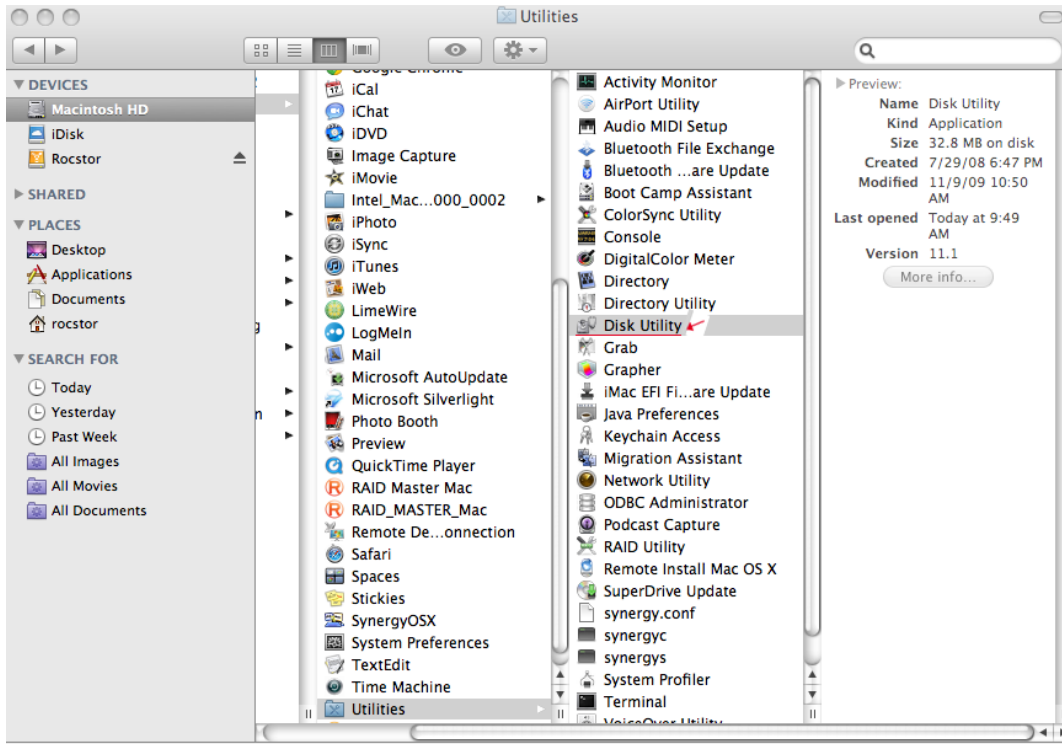

Figure 4.0
6. In the “Utilities” menu, click on the “Disk Utility” icon (figure 4.0.)